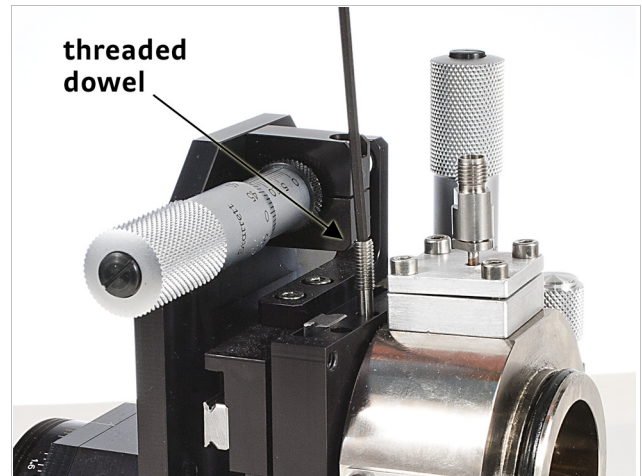

FIGURE 5-10 *Left: Loosen the two screws holding the planarization assembly to the probe arm base; Right: Pull out the threaded dowels*
5. If you have a planarization assembly attached to the probe arm, loosen the two M3 screws that hold the planarization assembly to the arm base. You may need to turn the z-axis micrometer to access the screw that is behind the micrometer (FIGURE 5-10). The planarization assembly will remain attached to the stage.
The probe arm base is loosely secured to the z-axis stage with two stainless steel threaded dowels. Unscrew the threaded dowels, and then pull both dowels out (FIGURE 5-10). Access to the threaded dowels may be to the side of the z-axis stage as shown in FIGURE 5-10 or to the top of the z-axis stage.
2. Insert the two threaded dowels into the z-axis stage (FIGURE 5-10). Tighten until snug.
Access to the threaded dowels may be to the side of the z-axis stage as shown in FIGURE 5-10 (right) or to the top of the z-axis stage.